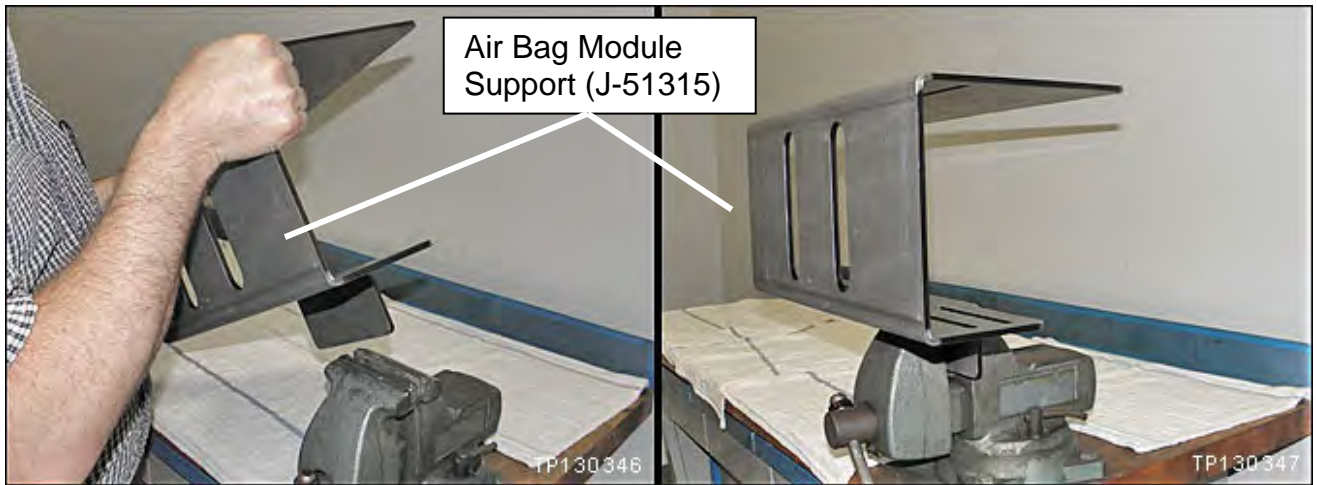

Figure 8
14. Securely mount the Air Bag Module Support (support) in a vise (see Figure 8).